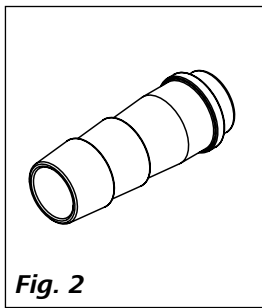

Fig. 2
- Hose olive NW 8 (2 pieces) see Fig. 2
- Hose olive NW 12 (2 pieces) see Fig. 2